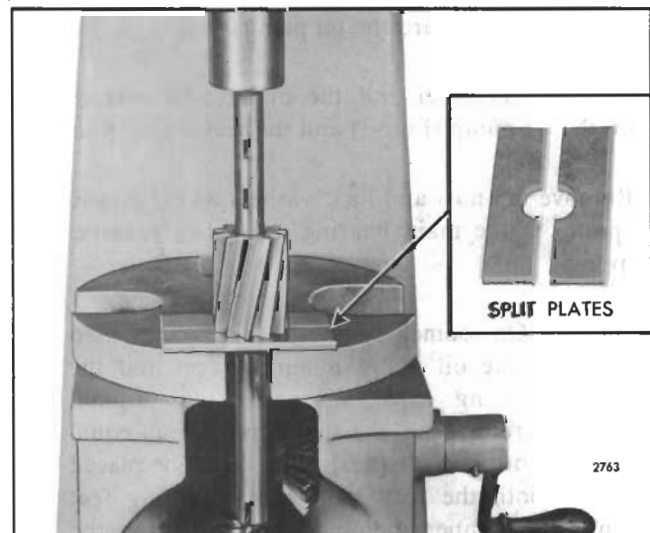

Fig. 5 - Pressing Oil Pump Gear From Shaft
8. Press the oil pump drive shaft out of the oil pump gear, as shown in Fig. 5.